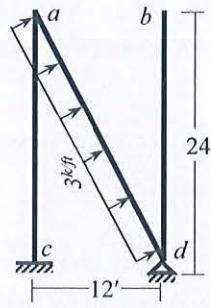

Fig.8
8. Use Stiffness Method considering flexural deformations only to calculate the unknown rotation at *a* and *d* of the frame *abcd* loaded as shown in **Fig.8**